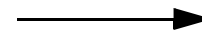

Figure 27
- Step 1: See Figure 27. Place rear lens (2) into mounting plate (1) with paint dots facing forward. Center the lens in the mounting plate and secure with the retaining ring (3) and screws (7). Lightly tighten all three screws while maintaining lens position, then tighten screws securely.
- Step 2: See Figure 27. Place front lens (5) into mounting plate (4) with paint dots facing forward. Center the lens in the mounting plate and secure with the retaining ring (6) and screws (7). Lightly tighten all three screws while maintaining lens position, then tighten screws securely.